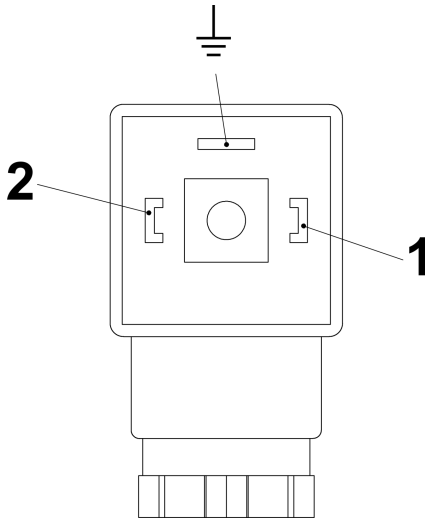
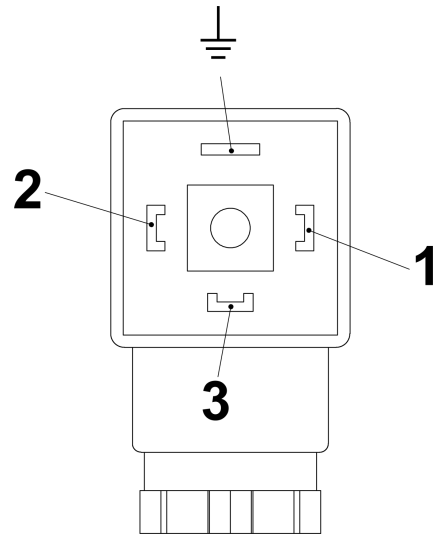

Fig. 25: Pin assignment, plug socket, Normally Open Contact (Form 30x70)
Fig. 26: Pin assignment, plug socket, Change-over contact (Form 30x70)
6. ➔ Make the connections as shown in the connecting diagram (Fig. 25 und Fig. 26)